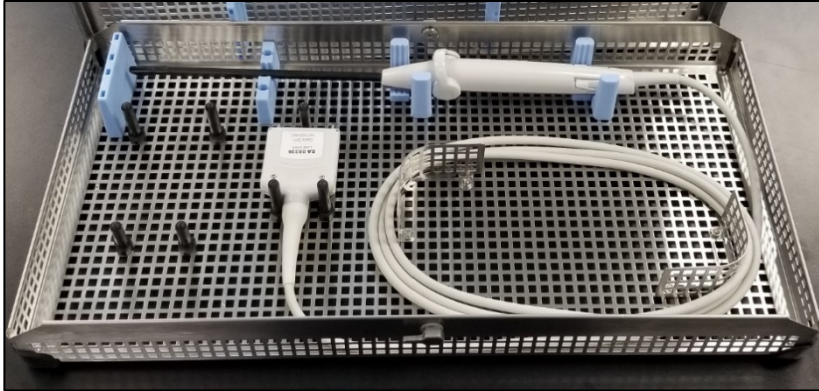

Figure 6-1 Representative of IUUS Probe in sterilization tray. Tray in photo is Sonata® IUUS Probe Reprocessing Tray OM-1000-GS.
1. Use a clean sterilization tray, see Figure 6-1. Refer to sterilization tray manufacturer's Instructions for Use for information regarding cleaning and disinfection between use.
2. The tray silicone device mounts must be placed to secure the device, see Figure 6-1.
1. Tray OM-1000-GS: In order to successfully align the lid and close the tray, the blue silicone pieces on the inside of the lid must be on top of the IUUS Probe seated inside of the tray base. Rotate the latches at each side of the tray lid to secure, see Figure 6-1.